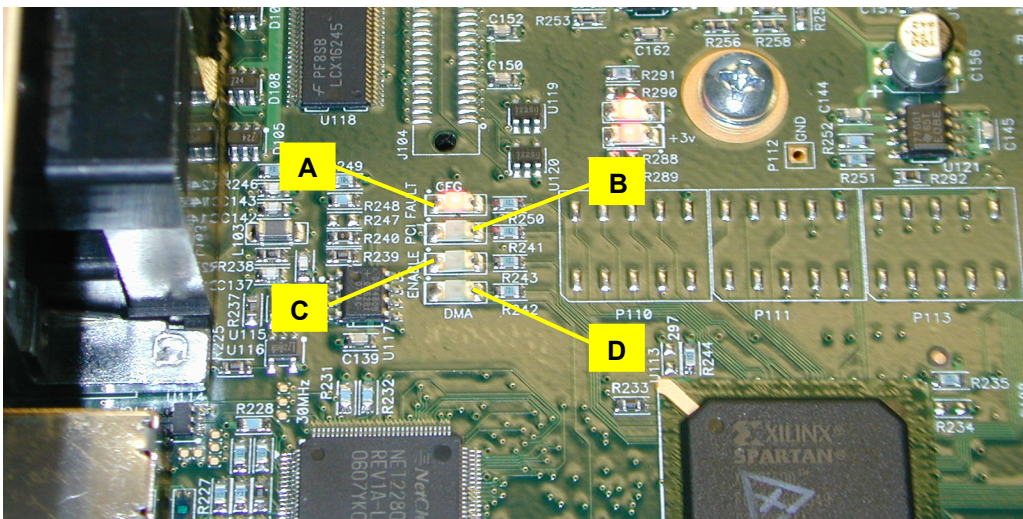

Figure 6 BZOD module LED indicators.
- The LED indicators located on the CPU/USB module (BZOD) (Figure 6) will indicate the instrument status during the initial instrument start up and launch of the APx500 Measurement Software.
11. Power off the instrument, and then power it on while observing the LED indicators. During the initial start-up of the APx instrument, the state of the BZOD module LED indicators at each point shown in Figure 6 will be as follows: